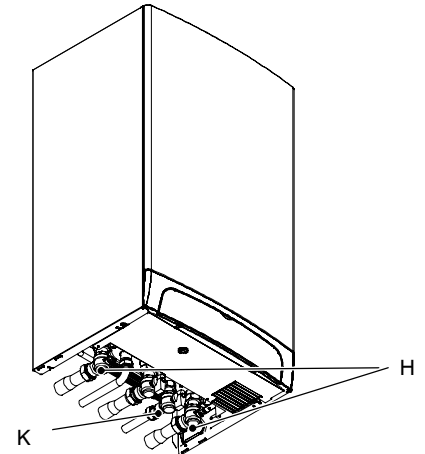

Fig. 2.7 – bottom view of the boiler
- 1 Close the c.h. circuit flow and return cocks *H*. (Fig. 2.7).
- 6 Close the d.c.w. inlet cock *K* (Fig. 2.7).